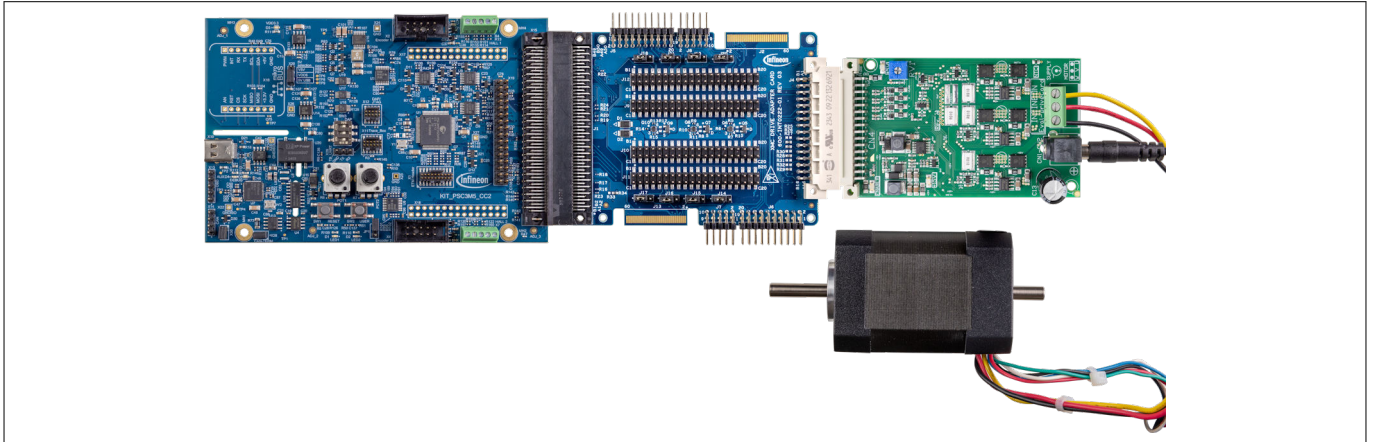

Figure 4 KIT_PSC3M5_MC1 complete setup with motor
2. Connect the control and power boards using the adapter board as shown in Figure 4